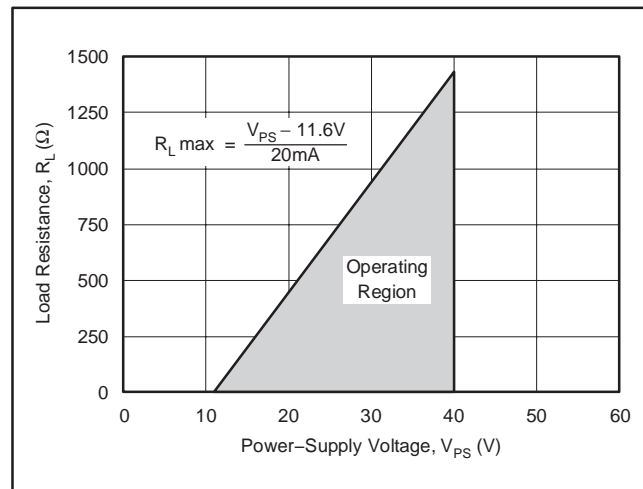

Figure 4. Power-Supply Operating Range
6. Always choose  $R_L$  (including line resistance) so that the voltage between pins 7 and 8 ( $+V_{CC}$ ) remains within the 11.6V to 40V range as the output changes between the 4-20mA range (as shown in Figure 4).